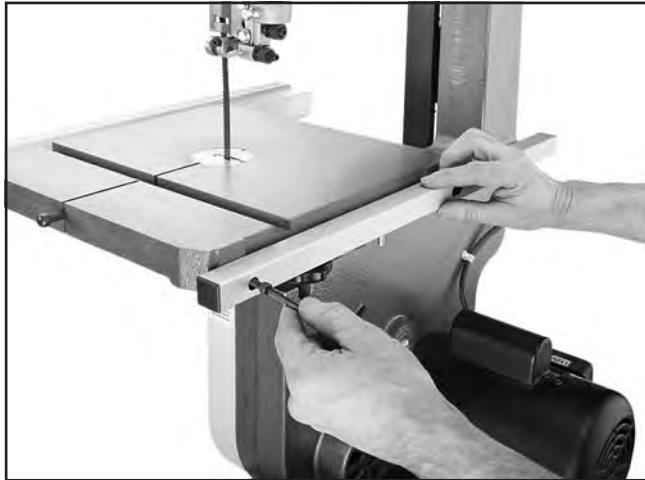

Figure 19. Attaching the rear fence rail.
16. Attach the rear fence rail to the table with the (2) black M6-1 x 16 cap screws (see **Figure 19**).